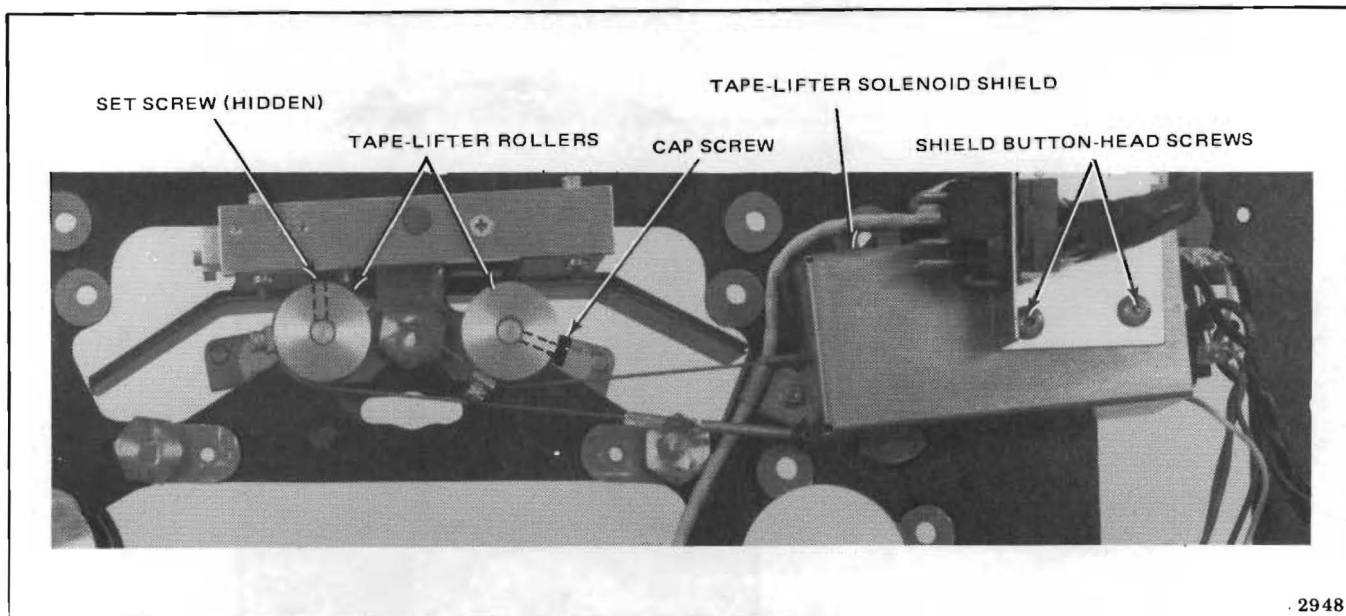

Figure 5-28. Tape Lifter Rollers and Solenoid, Rear View of Transport
2. Loosen two button-head screws (Figure 5-28) that hold the tape-lifter solenoid shield to the solenoid.
5. Loosen the 6-32 cap screw in the tape-lifter roller (Figure 5-28) nearest the tape-lifter solenoid. Then lightly tighten the screw to provide limited holding power against the tape lifter shaft.
10. Loosen the 6-32 setscrew in the roller (Figure 5-28) furthest away from the tape-lifter solenoid. Then lightly tighten the screw to provide limited holding power against the tape lifter shaft.